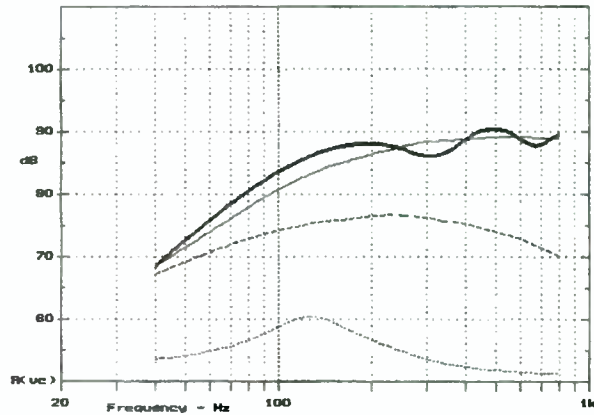
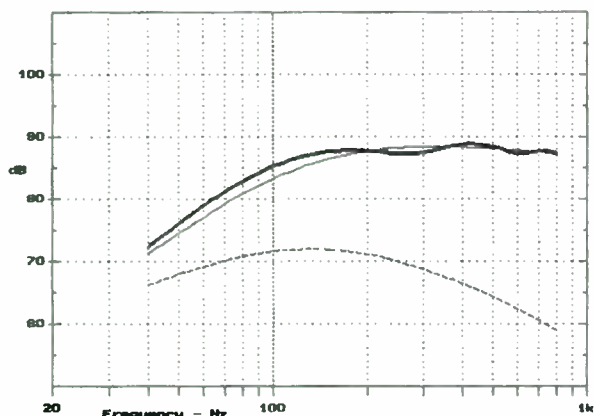
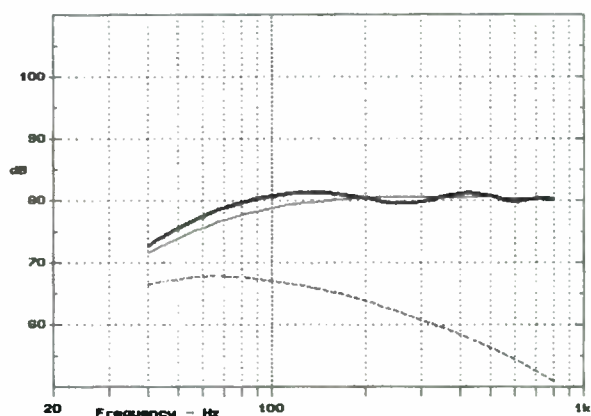

FIGURE 4B: Response of loudspeaker on straight pipe with moderate damping. Impedance, cone output, pipe output, and system response (bold).
FIGURE 5: Response of straight pipe with improved alignment. Cone output, pipe output, and system response (bold).
FIGURE 6: Response of straight pipe with alternate alignment. Cone output, pipe output, and system response (bold).
When you increase stuffing density to 1.5 lb/ft^3 , the result is a well-behaved transmission line. Figure 4b indicates nonresonant response with a 2dB sag at 300Hz and gentle rolloff below 200Hz.
menting with adjustments of individual parameters, I came up with the response of Fig. 5. Now, f_3 matches f_p , and f_s is an octave lower.
2. In Fig. 5, pipe output and cone output add constructively down to 40Hz or so. It follows that it should be possible to set f_3 as much as an octave below f_p by adjusting loudspeaker parameters with no change in stuffing density. Figure 6 shows how a nominal 109Hz pipe can be "tuned" to 65Hz. Efficiency goes down as well, just as you would expect from analogous closed box alignments. For a given f_3 , there is some advantage in choosing a shorter, fatter pipe, because passband ripple shows up at higher frequencies where it is easier to control.
Table 2 summarizes the loudspeaker/pipe relationships of Figs. 5 and 6, which you can use as multipurpose alignments. To achieve the classic, slightly bass-shy alignment of Fig. 4b, simply reduce Q_{TS} by half, thus raising mid-range sensitivity by 3dB. To simulate an infinite pipe, increase stuffing density by about 50% and assume that f_3 will go up about 25%.